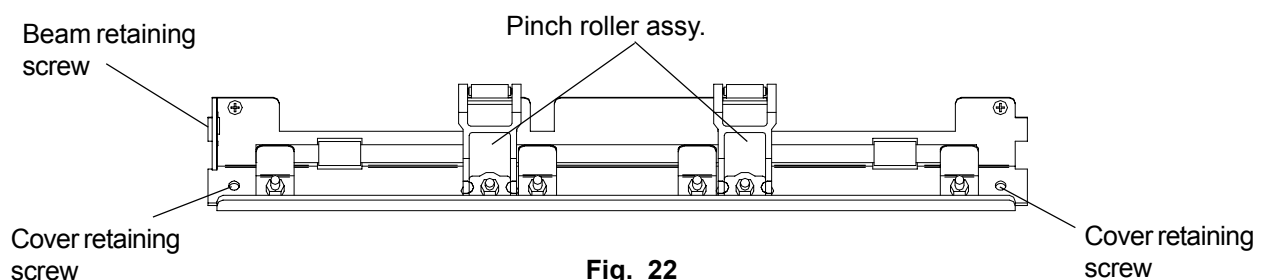

Fig. 22
2. Referring to Fig. 22 below, remove the beam by taking out the screw on the LH chassis face. Push the beam sideways slightly to clear the tangs and lift it out of the chassis. **Note:** avoid straining the flexi cable to the sensor. To separate the cover from the beam, remove the 2 screws shown.